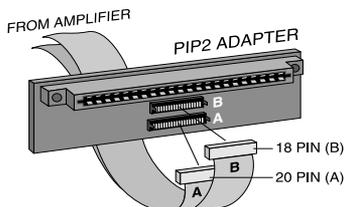

Fig. 2.4 PIP2 Input Adapter Connection
5. Remove the existing PIP module or panel (two screws). For PIP2 amplifiers, this may involve disconnecting the PIP from a PIP2 input adapter (see Figures 2.4 and 2.5). If a PIP2 input adapter is already present, do not remove the ribbon cables from the adapter. Otherwise you will have to reconnect them in the next step.
PIP2 Amplifiers: (Requires the PIP2 ADAPTER.) Connect the PIP2 input adapter to the two input cables of the amplifier (see Figure 2.4). Notice the PIP2 input adapter should be positioned with the PIP edge connector on top and facing away from the amplifier. The 20-pin cable (A) is connected first, then the 18-pin cable (B) is connected. Both ribbon cables should extend below the PIP2 input adapter.